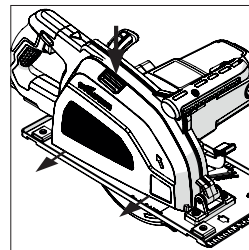
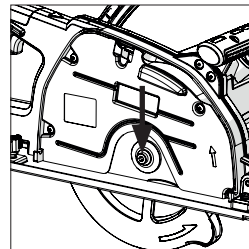

Fig. 3
Fig. 4
- Remove the chip collector, **(12)**, by depressing the release button, **(13)** **(Fig.3)**, exposing the blade bolt, **(Fig.4)**.